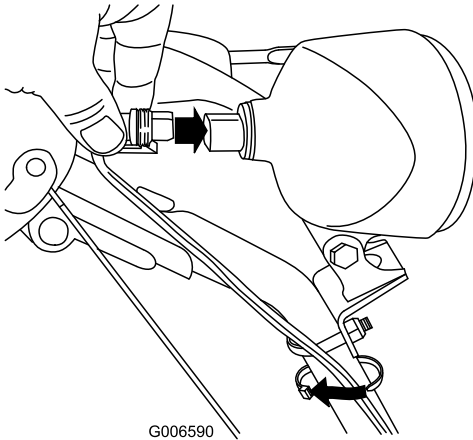

Figure 63
6. Insert the wire connector straight into the back of the headlight until it is securely in place (Figure 63).